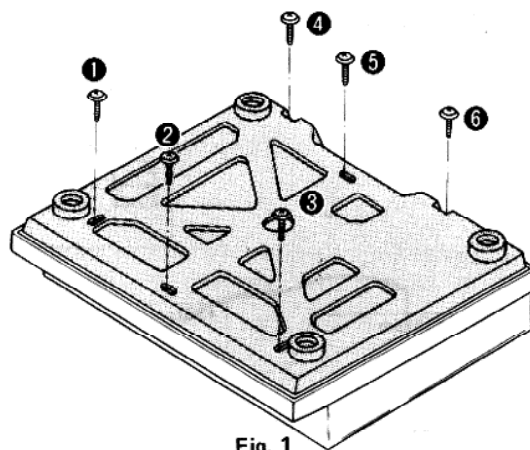

Fig. 1
4. Remove the 6 setscrews (Fig. 1: ① ~ ⑥) on the bottom board.